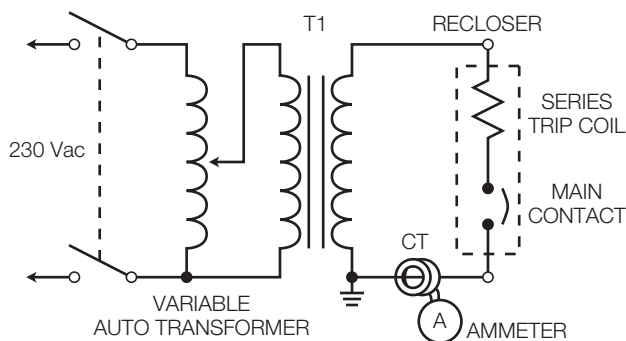

Figure 1. Test-circuit diagram
1. Connect a low-voltage variable-current source to the recloser terminals as shown in Figure 1.